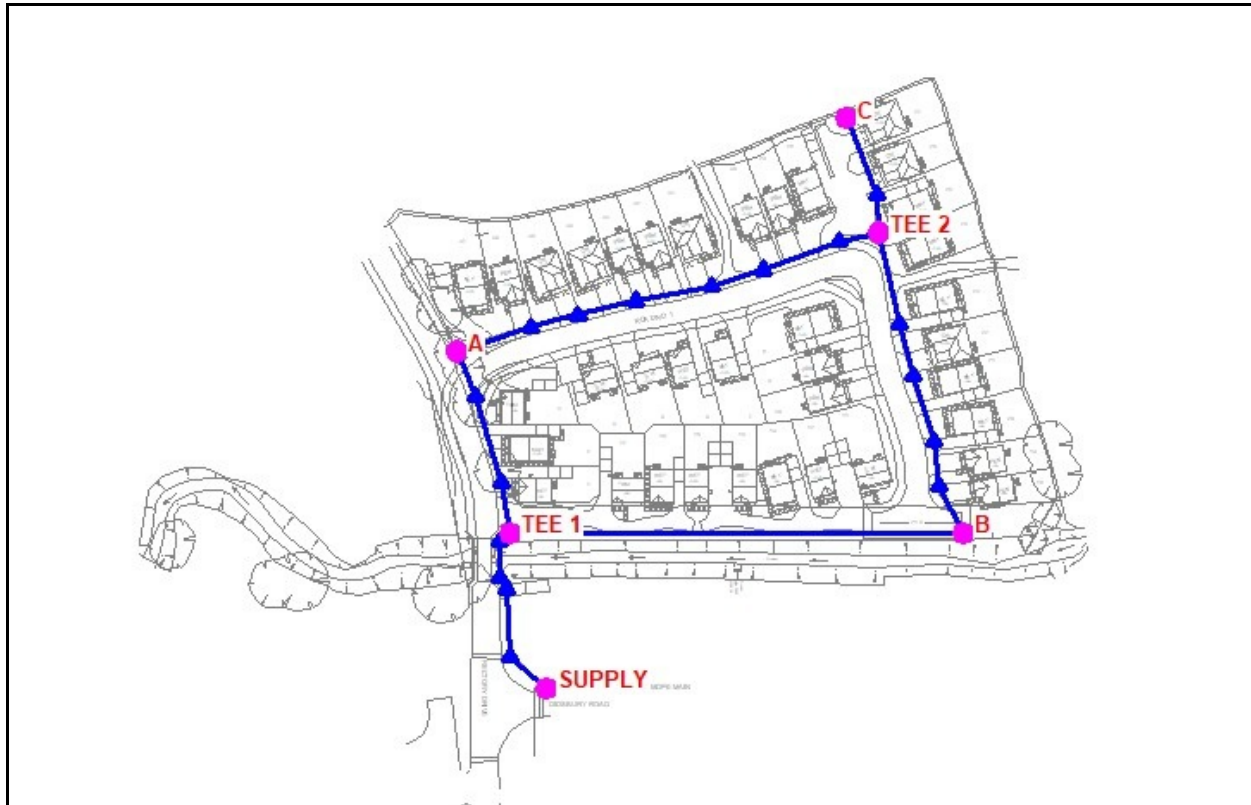

Figure 1
The main lines will be entered by tracing over a background image. The final main line configuration should be similar to that in Figure 1. In Figure 1, the dots (solid circles) reflect node locations, and the triangle symbols reflect the vertex locations (pipe deflection points).
- For the *Next Vertex* prompts, draw the pipe lines by moving the mouse crosshairs to the appropriate deflection points and the *To Node Location*, then left-click the mouse (see Figure 1). After entering the *To Node Location*, right-click the mouse to end the drawing process.
- Add the remaining main line piping using the various *Graphic Construction*, *Zoom*, and *Pan* commands. Ensure the adjacent pipe ends are “snapped” together by turning “on” the Feature Snap. For now, use the default data values and settings for the remaining pipes and nodes, but change the node *Names* as displayed in Figure 1. The completed piping system should look similar to Figure 1.